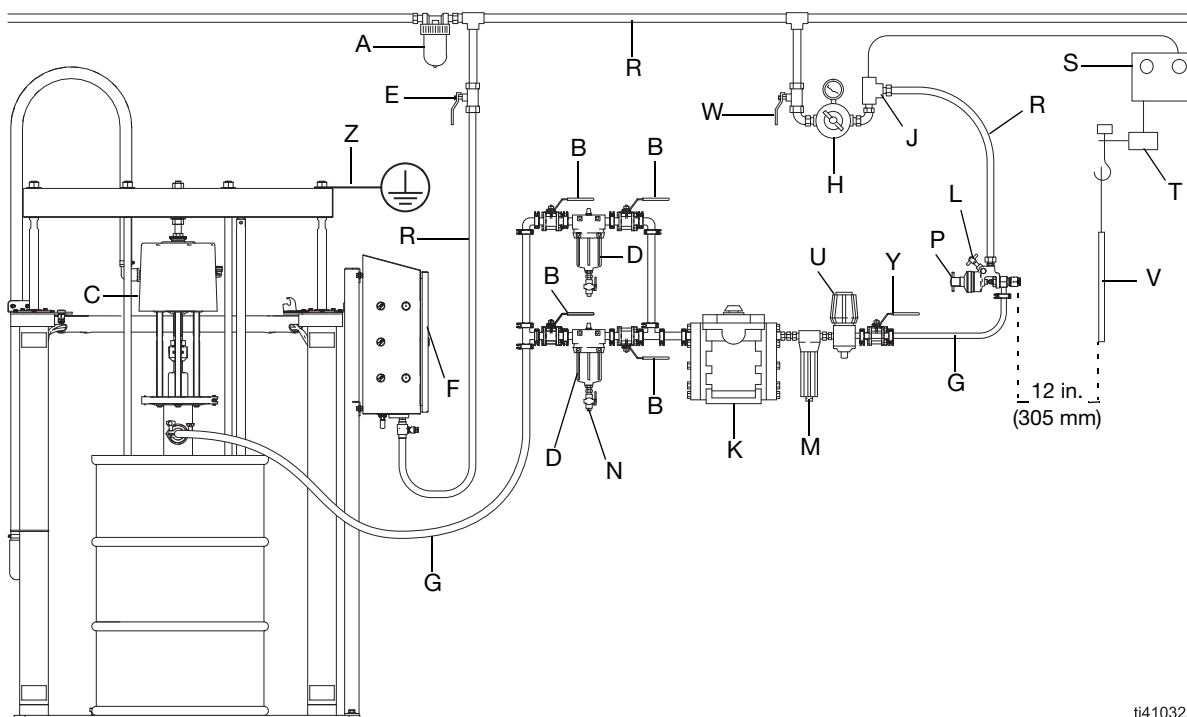

FIG. 1: Typical Installation
- A typical installation is shown in FIG. 1. It is only a guide for selecting and installing system components. Contact your Graco distributor for assistance in planning a system to suit your needs.
Install the following accessories in the order shown in FIG. 1, using adapters as necessary.